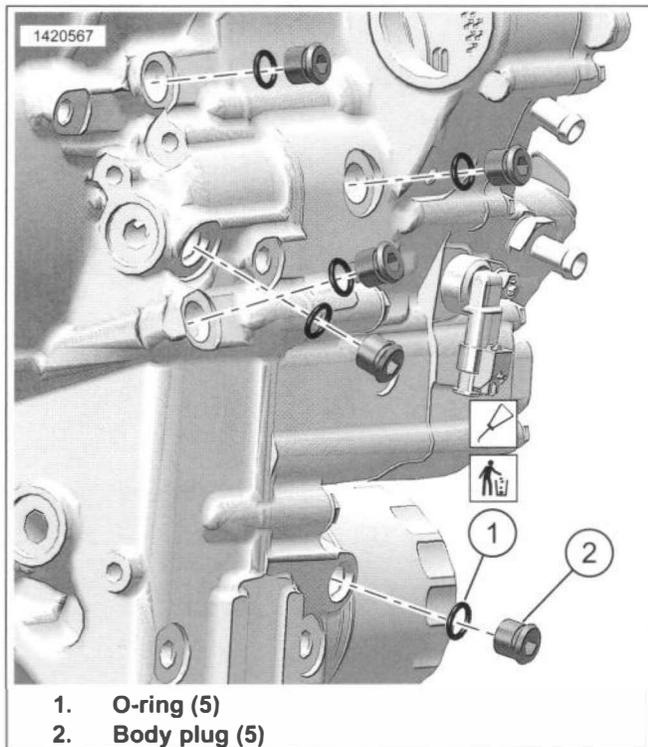

Figure 4-105. Engine Body Plugs
1. See Figure 4-105. Remove body plug (5).
2. Remove and discard O-ring (1).
3. Lubricate **new** O-ring (1) with clean engine oil.
4. Install **new** O-ring (1).
5. Install body plug (5). Tighten.